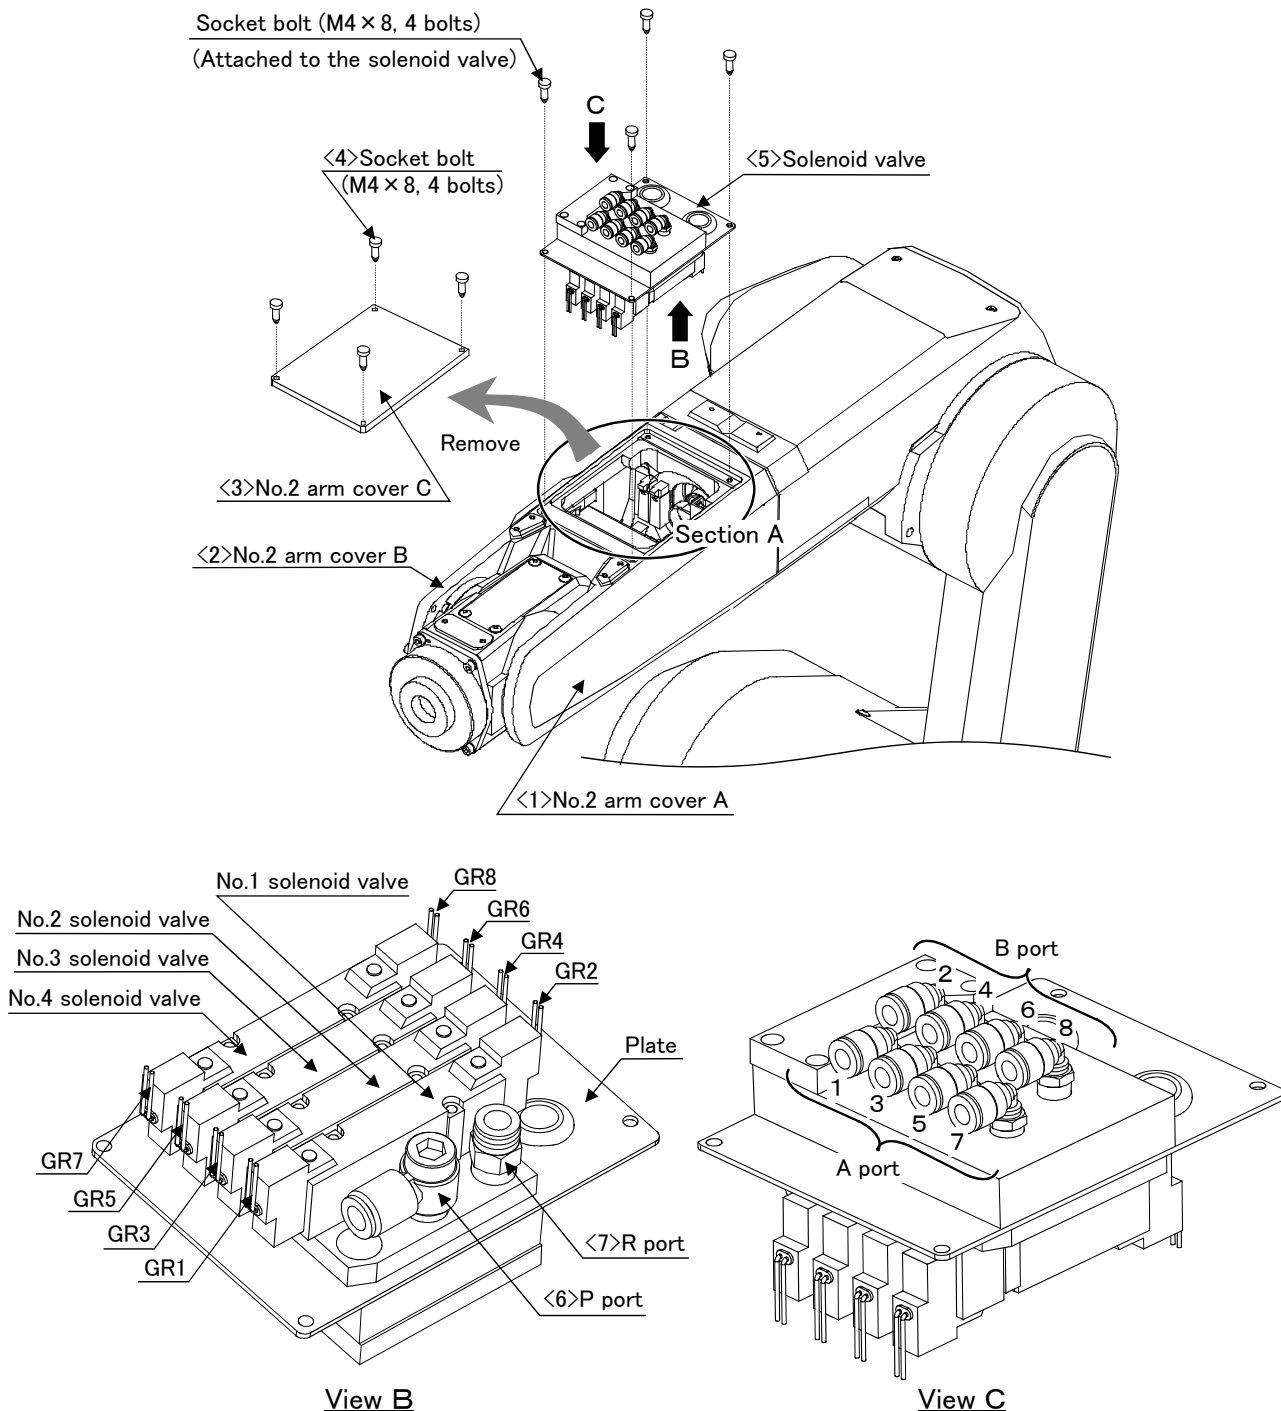
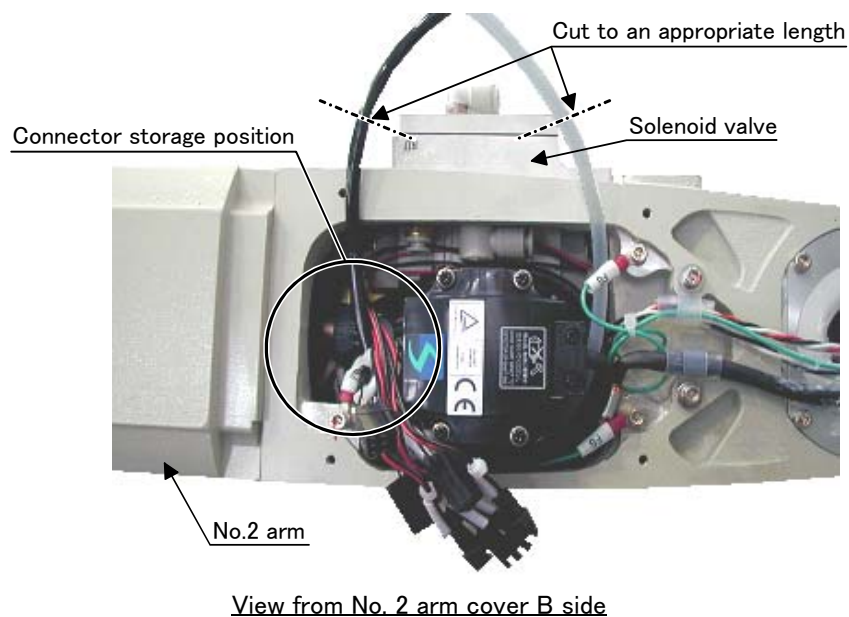
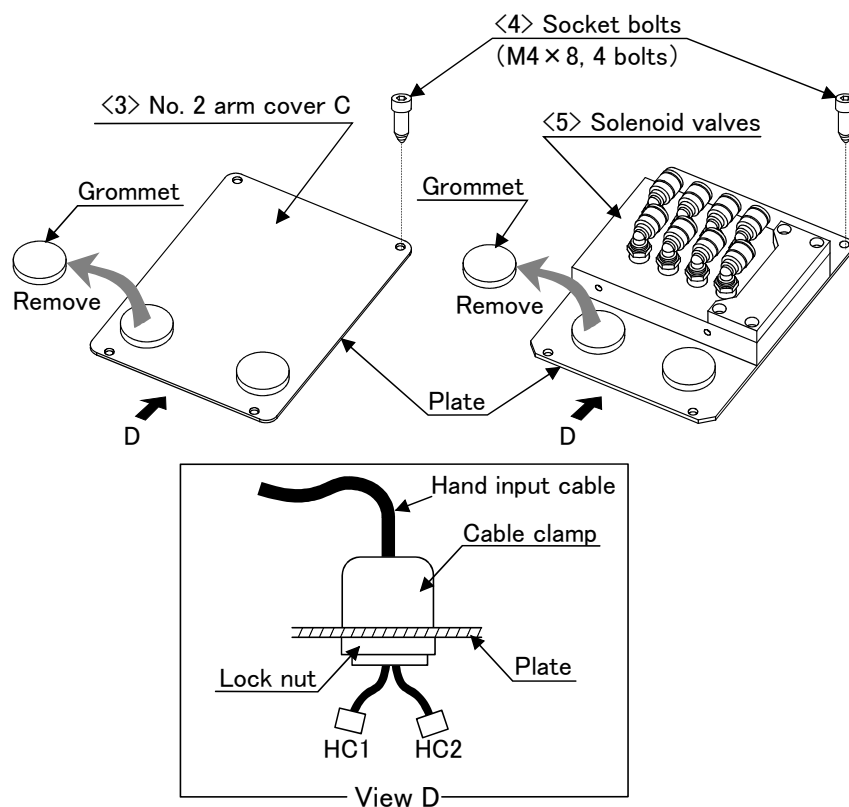

Fig.3-1 : Solenoid valve installation procedures
Fig.3-2 : Solenoid valve installation diagram details 1
Fig.3-4 : Installing the hand input cable
Fig. 3-1 and Fig. 3-2 shows the solenoid valve installation procedures and the solenoid valve connector connection procedures. The installation procedures are as follow. This work must be carried out with the controller power turned OFF.
- 2) If you are not using the spare line (ADD: stored in a coil) in section A shown in Fig. 3-1, remove it. The spare line is connected to a connector inside section A.
- 3) Connect the connectors of "GR1" and "GR2" stored in section A to the connectors of "GR1" and "GR2" coming out of the solenoid valves. Store the connectors near the location marked with ○ shown in Fig. 3-2.
The procedure for installing the hand input cable is as follows. Conduct work by referring to "Fig. 3-1 Solenoid valve installation procedures" on page 45 and "Fig. 3-4 Installing the hand input cable" on page 48 below. This work must be carried out with the controller power turned OFF.
- 6) Connect the connectors of "HC1" and "HC2" stored in section A shown in Fig. 3-1 to "HC1" and "HC2" of the hand input cable.
- 7) Mount the No. 2 arm cover C <3> or the solenoid valves <5> to section A shown in Fig. 3-1. When mounting, be careful not to damage the sponge sealing material attached to the opening of section A. If it is damaged, the protection performance may be lowered.
- 6) Connect the connectors of "GR1" and "GR2" stored in section A shown in Fig. 3-1 to "GR1" and "GR2" of the hand output cable.
- 7) Mount the No. 2 arm cover C <3> to section A shown in Fig. 3-1. When mounting, be careful not to damage the sponge sealing material attached to the opening of section A. If it is damaged, the protection performance may be lowered.